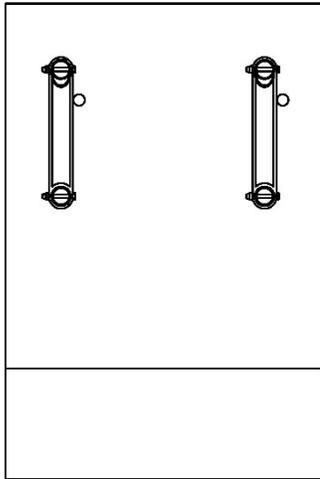

FIGURE 4
- Place Velocity VR block on the deck next to the existing anchors. Ensure that the front edge of the backstroke bar and the footboard are in-line with edge of the pool wall. Use a level on both sides of the backstroke handle to be sure the block is flush with the pool's edge. **See Figure 4 & 5.**